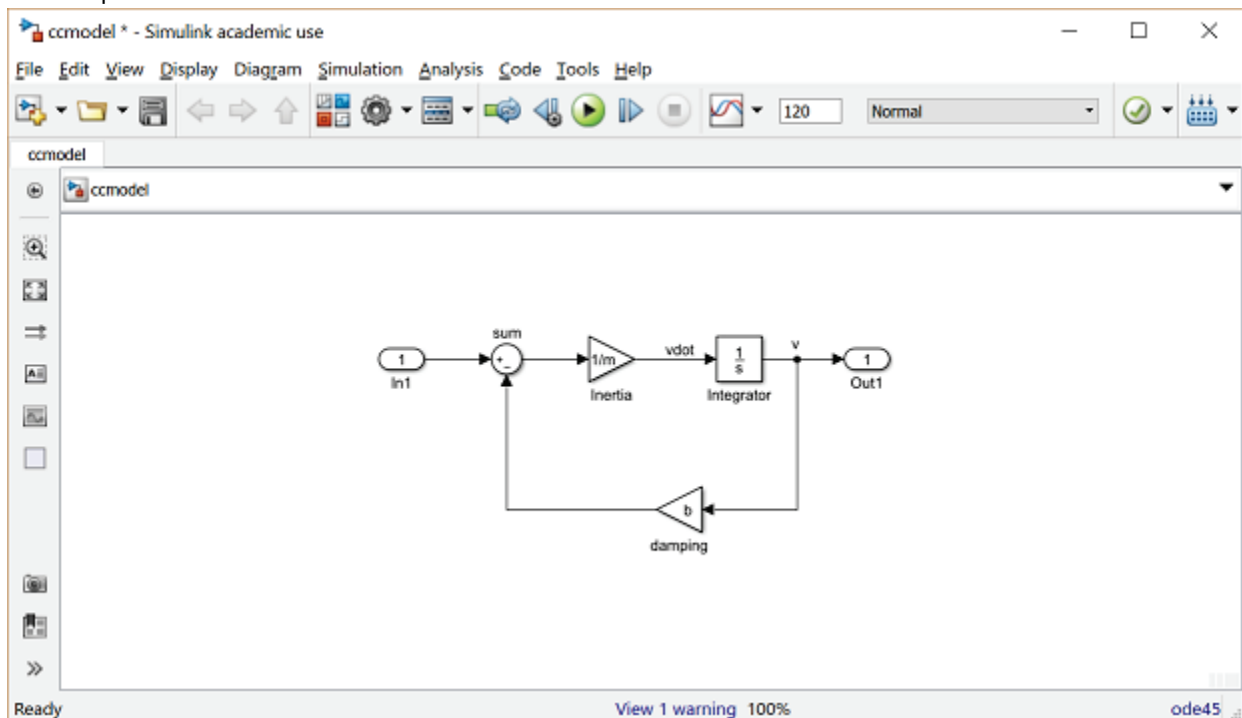

Figure 3.1: Simulink model of the car
- Q38(a)** The car model file as in Fig. 3.1 (ccmodel.slx)